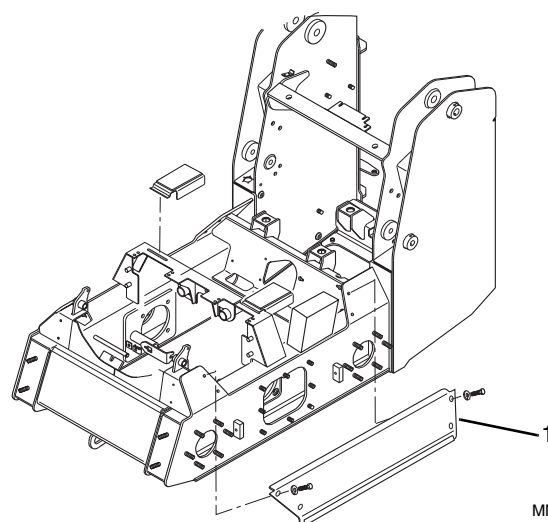

Figure 9-93 Chassis Panel Installation
48. Replace the left (Fig. 9-93, 1) and right (not shown) side panels on the chassis.